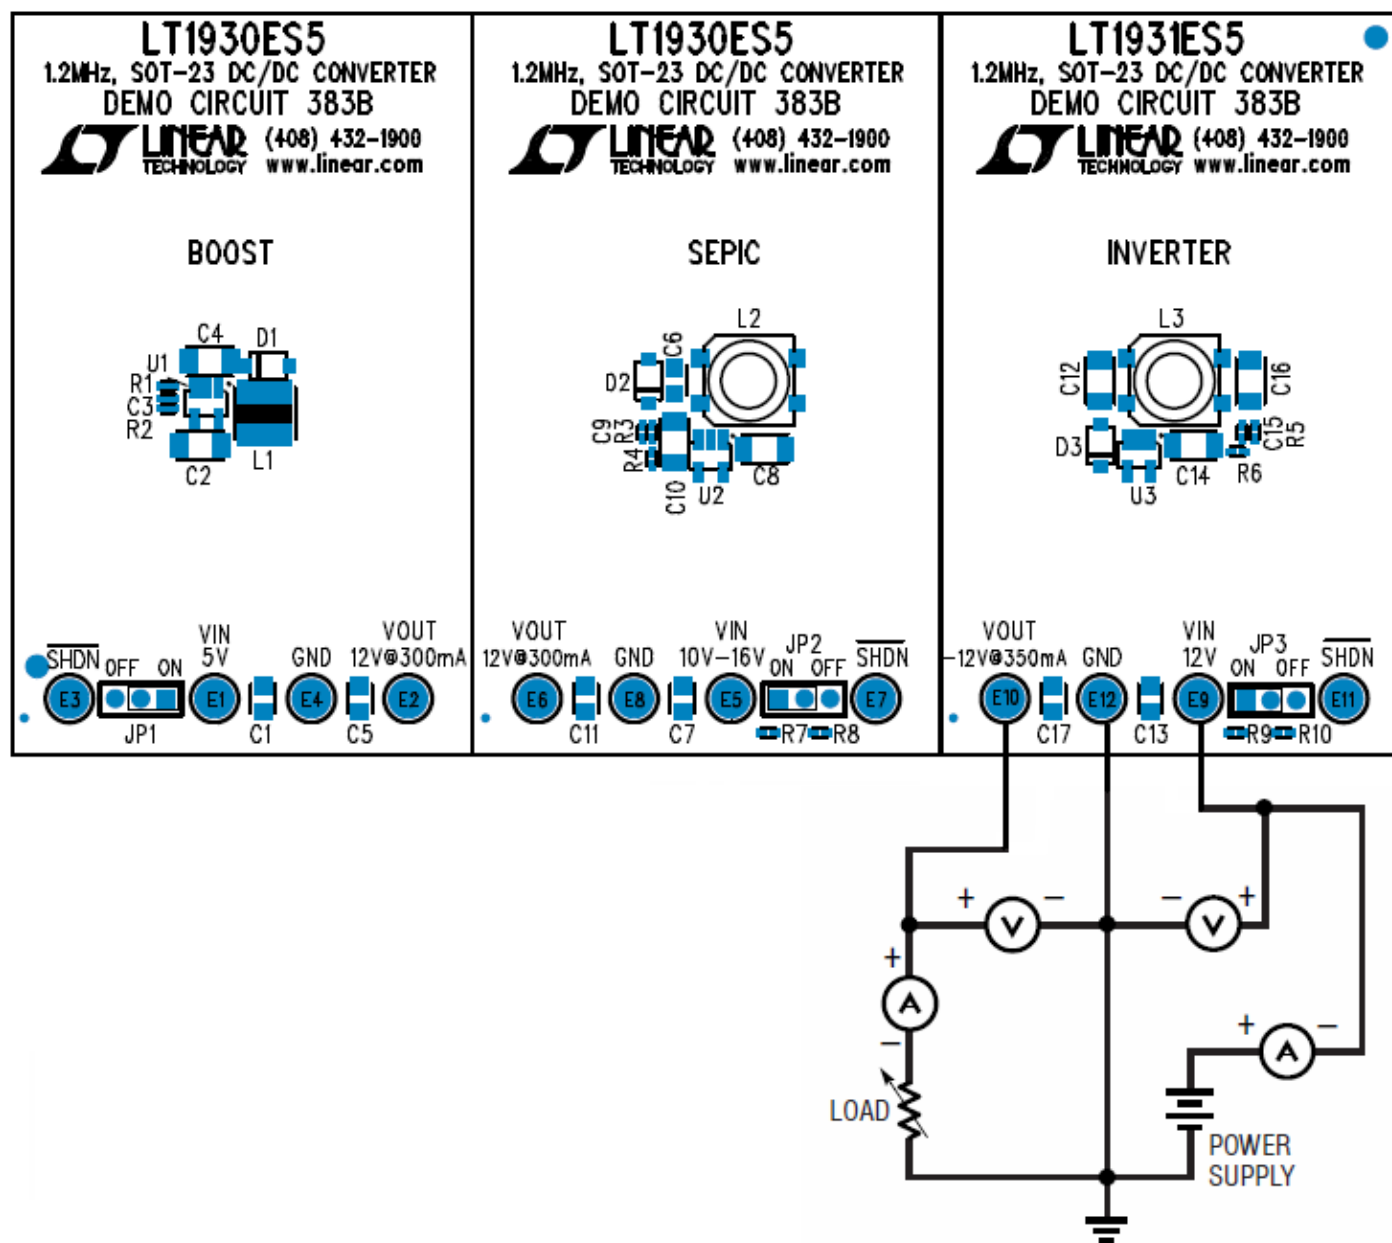

Figure 3. Proper Measurement Equipment Setup for Inverting Converter
1. Before turning on the power, connect a 12V, 1A bench supply to the Vin and Gnd terminals and connect the output loads (up to 300mA). When an electronic load is used, decrease load current setting to less than 100mA until the output voltage has stabilized. Connect oscilloscope and meters to the Vout and Gnd terminals, as shown in Figure 3.